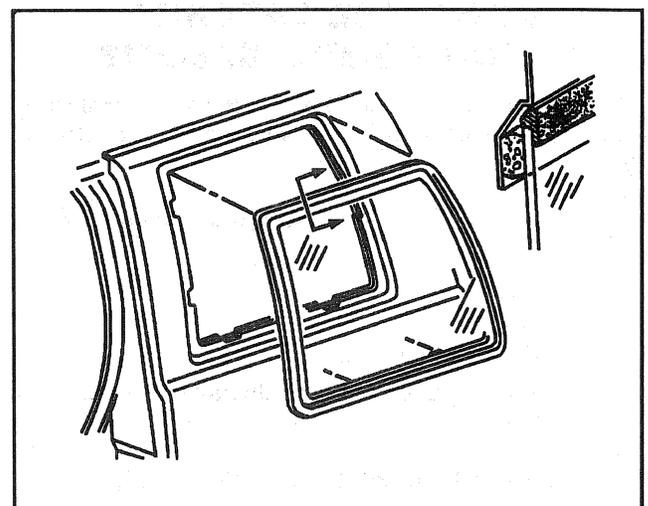

Figure 16—Primer and Adhesive Application Points
↔ Install or Connect (Figures 16 through 18)
2. Clear primer to the window covering an area of 18 mm (3/4 inch) from the edge of the glass (Figures 16 and 17).